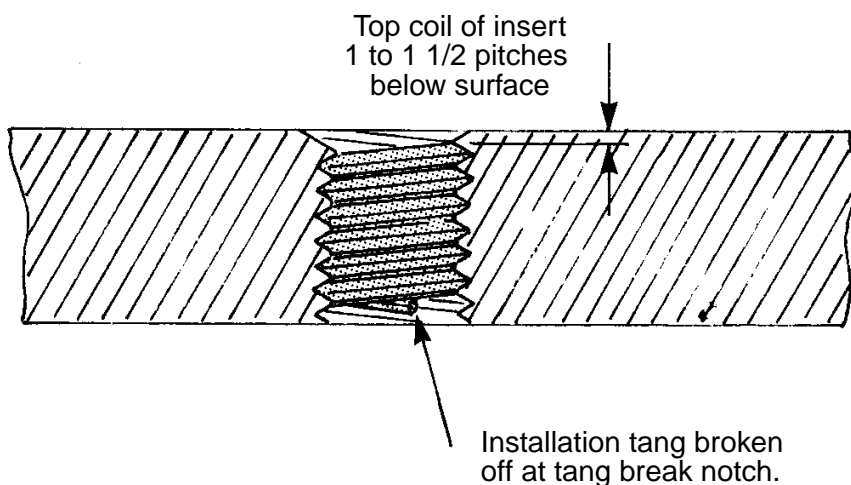
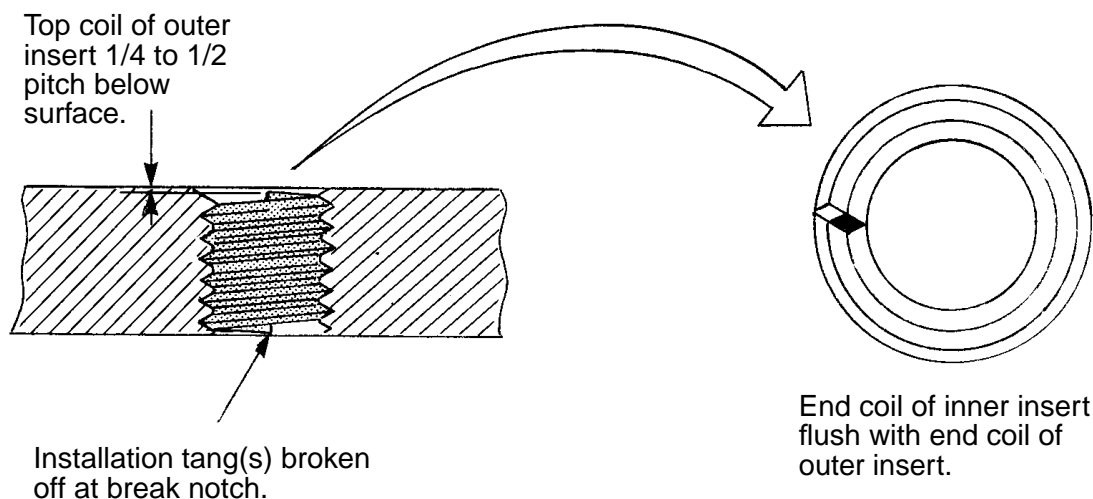

Figure 8 - Standard and Oversize Insert Installation Requirements
Figure 9 - Twininsert Assembly Installation Requirements
- Step 6. Install the inner insert according to section 5.5, using the insertion tools specified in Table 5 for standard size inserts. Ensure that the ends of the inner and outer inserts are flush (see Figure 9).
- 6.1 For standard and oversize inserts, ensure that the top coil of the installed insert is 1 to 1 1/2 pitches below the surface of the tapped hole (see Figure 8). For Twinert assemblies, ensure that the top coil of the outer insert is 1/4 to 1/2 of a pitch below the surface of the tapped hole (see Figure 9).
- 6.4 For Twininsert assemblies, ensure that the end coil of the inner insert is flush with the end coil of the outer insert (see Figure 9).